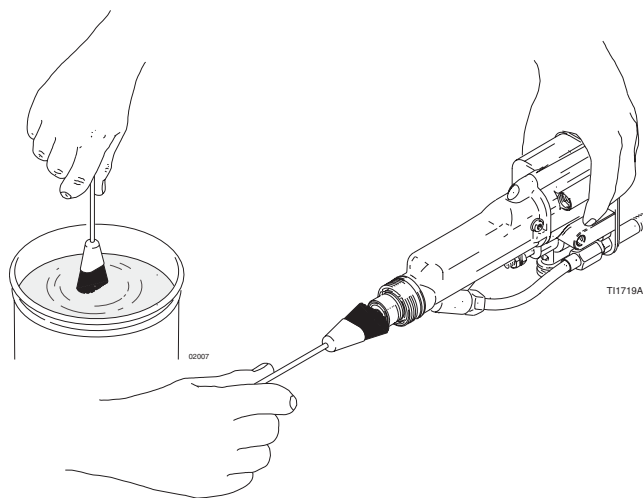

Fig. 15. Clean Front of Gun
2. Be sure the turbine air (TA) is turned off.
3. Remove the retaining ring (1), tip guard (3), air cap (40), spray tip (4), and gun shroud (2). See page 19.
4. Dip the end of a soft bristle brush into compatible solvent. clean the front of the gun with the brush. Avoid getting any solvent into the air passages. Whenever possible, point the gun down when cleaning it. See FIG. 15..